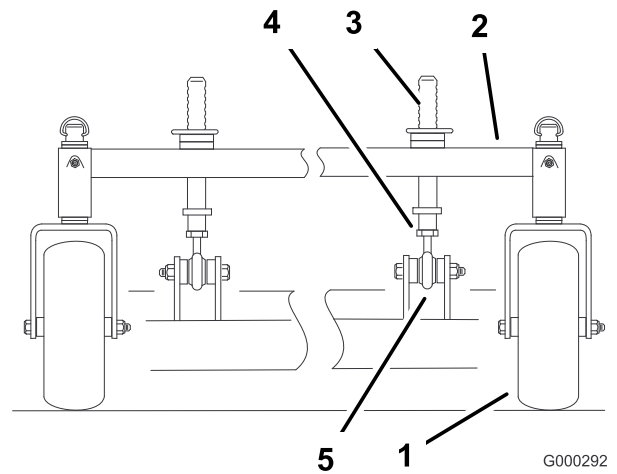

Figure 57
2. To raise the front of the deck, loosen jam nut and rotate the front pin clockwise (Figure 57).
3. To lower the front of the deck, loosen jam nut and rotate the front pin counter clockwise (Figure 57).
6. Tighten the jam nuts (Figure 57).
1. To change the front-to-rear pitch, the front height-of-cut posts can be adjusted (Figure 57).